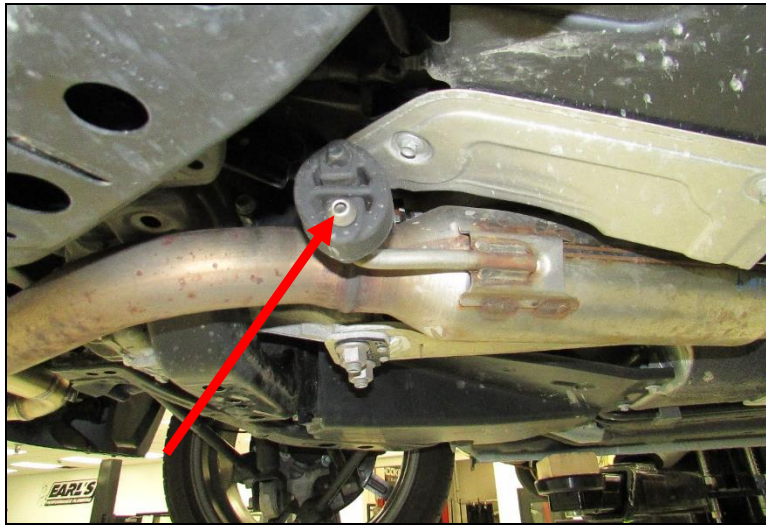

Figure 6
- After cutting the exhaust pipe Spray the rubber isolator with lubricant and remove the resonator hanger out of the rubber isolator. Now remove the resonator pipe from under the car (Figure 6).